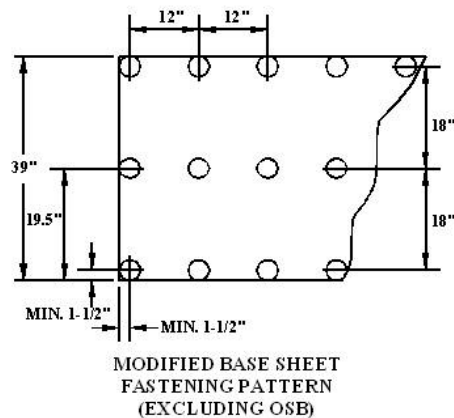

Figure 7
- When no insulation is specified and FleeceBACK AFX or FleeceBACK KEE HP Membranes is to be directly mopped to a Carlisle Modified Base Sheet. The base sheet must be fastened with Carlisle HP or HP-X Fasteners with 3" diameter insulation plates are used to attach the Carlisle Modified Base Sheet in rows 18" apart, 12" on center, refer to the fastening pattern in figure 7.